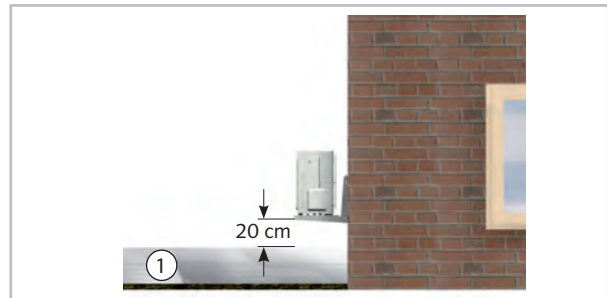

Fig. 44: Protection against snow
- If the outdoor unit is erected in an area of strong winds, then the unit must be protected against them and additional stabilisation is recommended. This can be realised for example with wire ropes or other constructions (Fig. 43). The snow line is to be observed during installation (Fig. 44).
- During installation, add about 20 cm to the expected snow depth to guarantee unimpeded intake and exhaust of outdoor air year round (Fig. 44).